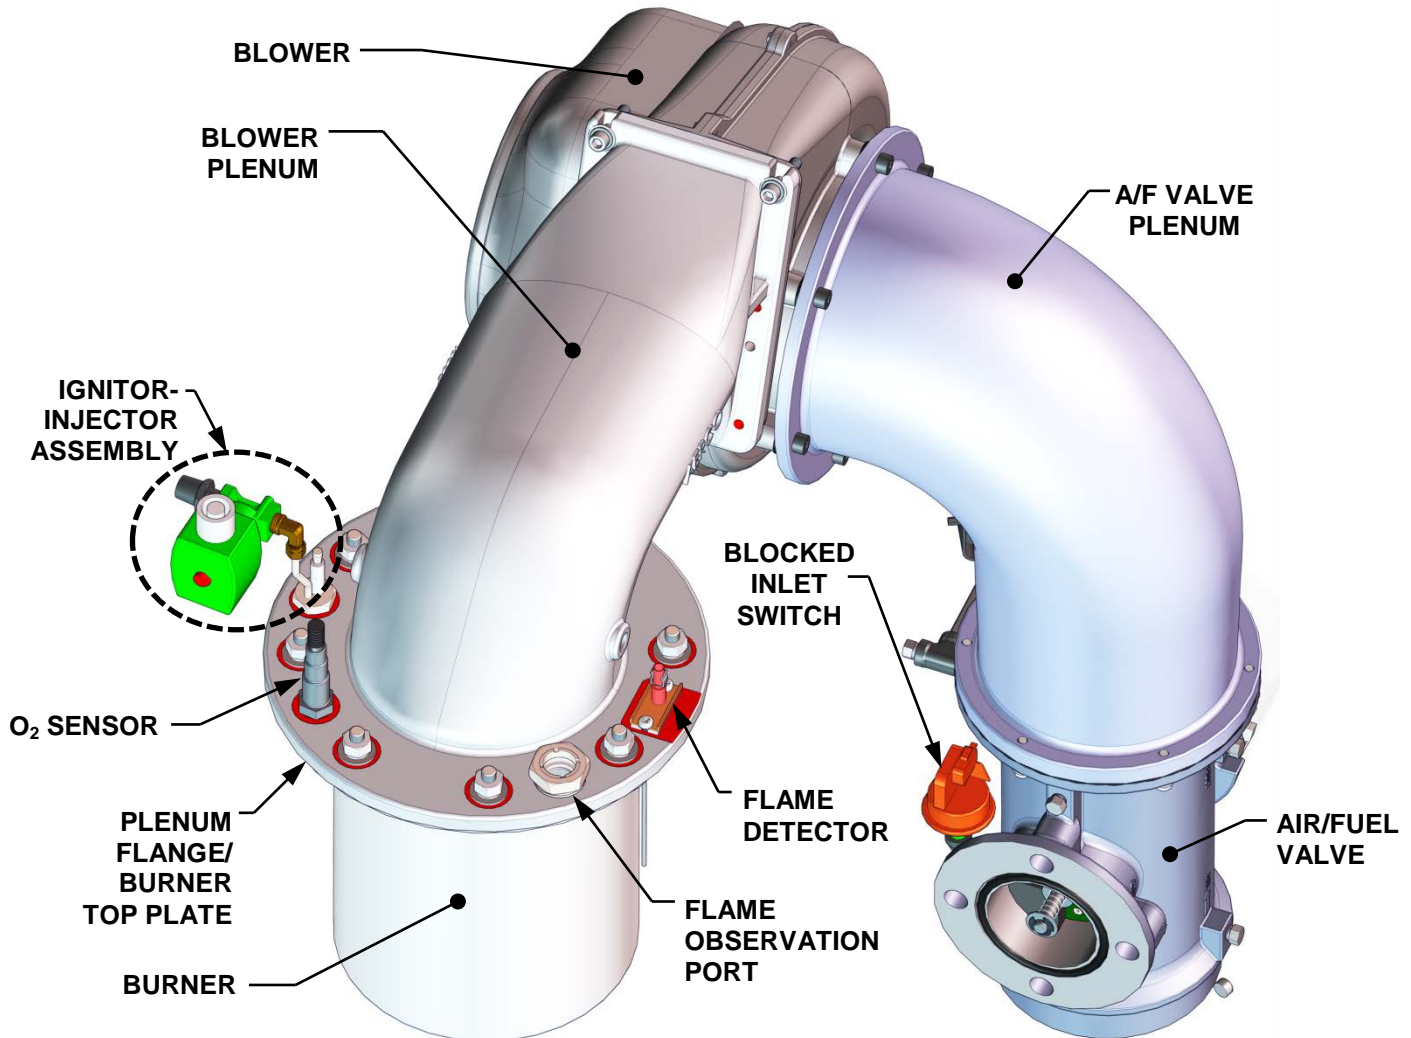

Figure 7-1: Benchmark 1500/2000 Burner Assembly (Removed from Boiler)
The igniter-injector (part no. 66026) is located on the burner plate at the top of the boiler. In addition to providing the ignition spark required to light the burner, the igniter-injector also contains a gas injector tube which connects to the staged ignition assembly. Figure 7-1 shows the complete burner assembly removed from the boiler and indicates the location of the igniter-injector flame detector and other related components.
2. Remove the top shroud from the unit by grasping the top handle and lifting straight up. This will disengage the shroud from the four (4) pins in the side panels.
3. Disconnect the cable from the igniter-injector (Figure 7-1).
The flame detector (part no. 66020) is located on the burner plate at the top of the unit (see Figures 7-1 and 7-2). The flame detector may be hot. Allow the unit to cool sufficiently before removing the flame detector. Inspect or replace the flame detector as follows:
The O₂ sensor (part no. 61026) is located on the burner plate at the top of the unit (see Figures 7-1 and 7-2). The sensor may be hot. Allow the unit to cool sufficiently before removing or replacing the O₂ sensor.